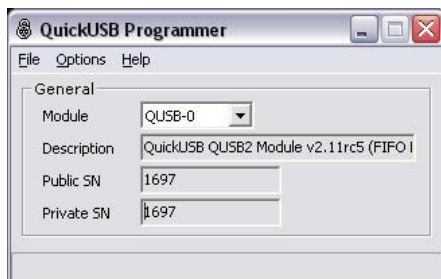

Figure 6 – QuickUSB Programmer
3. After the Firmware has been updated, disconnect and reconnect the QuickUSB Module from the USB cable to load the firmware. See Figure 6.